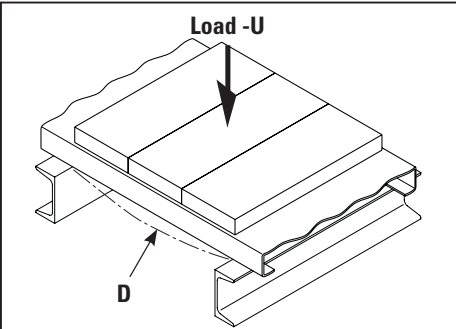

Figure 1
Design load assumptions differ according to load type: (1) uniform, (2) concentrated (see Figures 1, 2 and 3 below for explanation of load application). Concentrated load capacities generally vary with span, siderail height and material thickness, irrespective of grating width, although large differences in grating width cause concentrated loads to be distributed somewhat differently into siderails.
Deflection (D) in all walkways/planks: Deflection (in.) corresponding to maximum load (U) or (C) permitted by flexural stress in siderail or grating strut, whichever is lower, applied as defined in Figures 1 or 2, and 3.